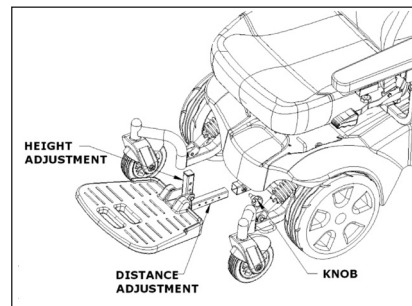

Figure 26. Foot platform adjustment
1. Loosen the adjustment screw on the pipe. (See figure 26)
1. Loosen the knob which is fastened on the pipe. (See figure 26)